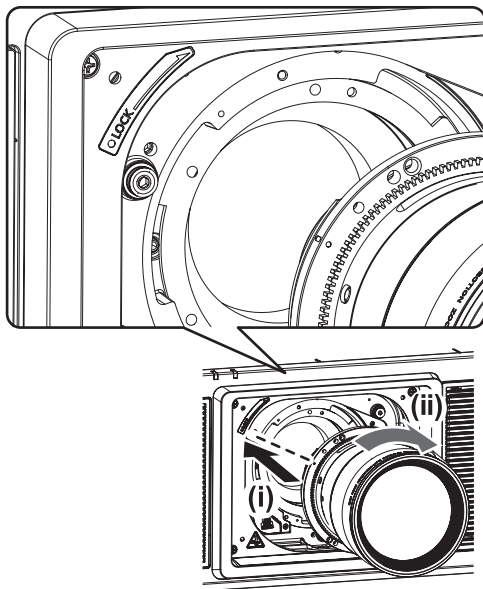

Fig. 3
- 3) Insert the projection lens by aligning the mark on the projection lens (orange) with the mark on the projector (○ on the left side of LOCK) and turn clockwise until it clicks. (Fig. 3)